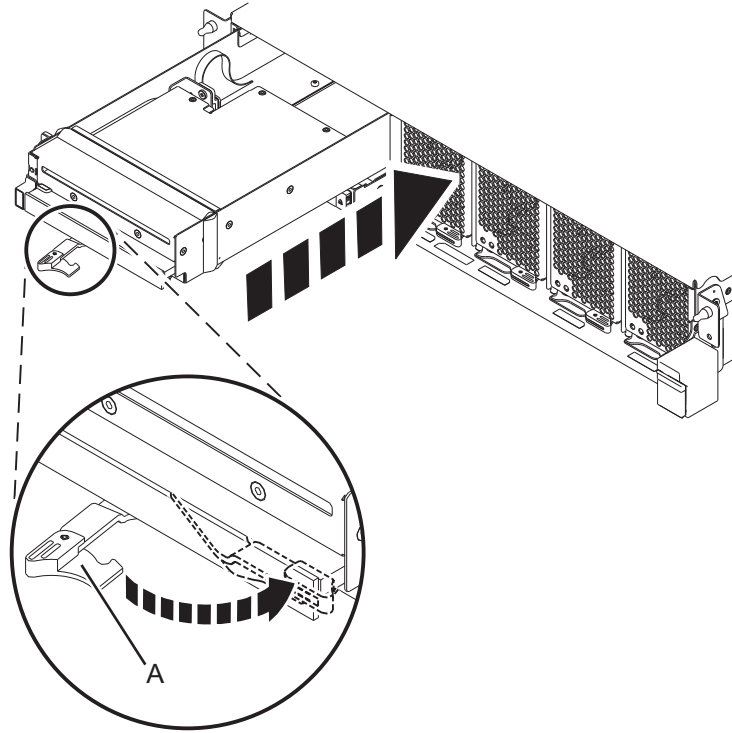

Figure 3. Installing a Slimline media device in an 9080-MHE, 9080-MME, 9119-MHE, or 9119-MME system control unit
- a. Ensure that the Slimline media device handle (**A**) is rotated open as shown in Figure 3 on page 7.